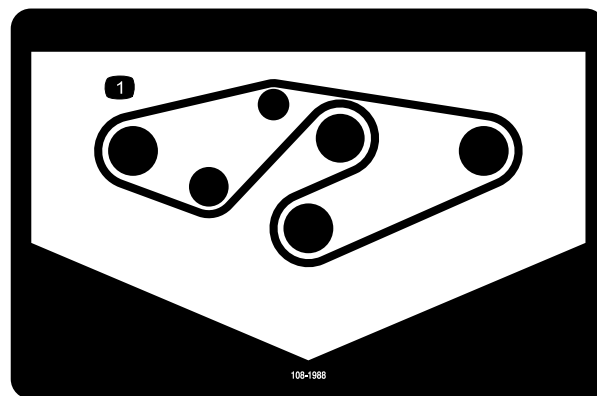

Figure 32
4. Route the new belt around the spindle pulleys and idler pulley assembly as shown in Figure 32.